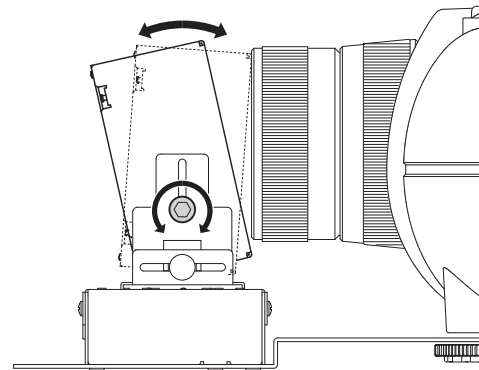

Figure 28
3. If the test pattern is distorted, adjust by loosening the screw on the side of the anamorphic lens so that the light being projected passes through the center of the anamorphic lens as much as possible. Refer to Figure 28.